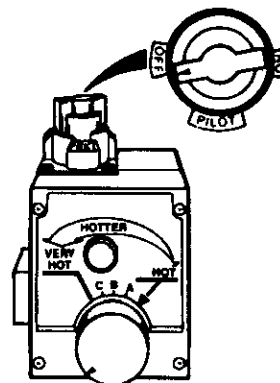

Figure 9
4. Set the thermostat to lowest setting by turning the water temperature dial clockwise, (↻) to its lowest temperature setting (with arrow on dial) as shown. **DO NOT FORCE.** (Figure 9, Page 22)
6. Wait five (5) minutes to clear out any gas. If you then smell gas, STOP! Follow "B" in the safety information above on this label. If you don't smell gas, go to the next step.
9. If you don't smell gas, turn knob on gas control counter-clockwise (↺) to "PILOT" position. (Figure 9, Page 22)
10. Push in control knob all the way and hold down. Immediately light the pilot with a match. Continue to hold control knob in for about one (1) minute after the pilot is lit. Release knob and it will pop back up. Pilot should remain lit. If it goes out, repeat steps 5 through 10.
- If the pilot will not stay lit after several tries, depress and turn the gas control knob clockwise (↻) to "OFF" and call your service technician or gas supplier. (Figure 9, Page 22)
4. Turn gas control knob clockwise (↻) to "OFF" position. Knob cannot be turned from "PILOT" to "OFF" unless knob is depressed slightly. **DO NOT FORCE.** (Figure 9, Page 22)